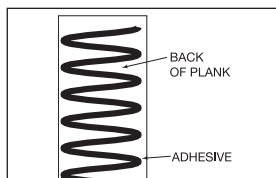

Figure 7
- If the Engineered Hardwood Flooring plank is wider than 5" it must be installed applying a 1/4" serpentine bead of Premium construction adhesive to the back of each board. (Figure 7).